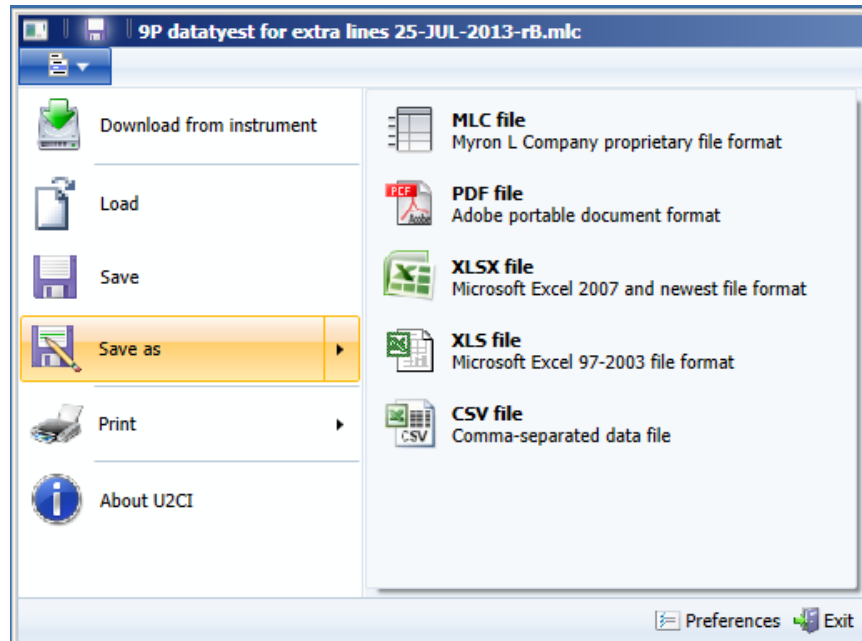

Figure 42
- 1) Select the "**SAVE AS**" command under the active Data Window's File Control Menu (Figure 42).